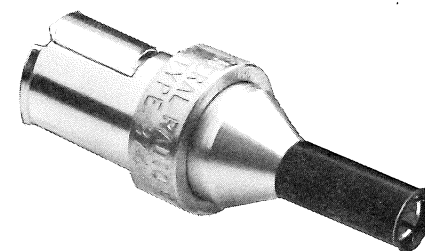

Fig. 2-1. Special GR-to-P6038 Adapter for connecting the P6038 Probe to a 50-ohm line.
3. Place the P6038 Probe tip into a 50-ohm environment, such as shown in Fig. 5-2. Use a 50-ohm cable and a GR-to-P6038 Adapter. The adapter is a special item, available from Tektronix (Part No. 017-076). See Fig. 2-1. The electrical length of the cable need be no longer than 2 nsec and its other end can be left open since its electrical length is much longer than the gate-generator pulse duration, and the probe sees the 50-ohm line only during the gate time.
**GR-To-P6038 Adapter.** The P6038 Probe can be used at the end of an unterminated 50-ohm system (System 5 of Table 2-1) with some precautions. Fig. 2-1 shows the GR-To-P6038 Adapter. (Tektronix Part No. 017-076.)
Use the GR-to-P6038 Adapter shown in Fig. 2-1 with a 10-nsec signal-delay cable from the DELAYED PULSE connector. The system risetime, in either the LOW NOISE or FAST RISETIME position of the Noise-Risetime switch, can then be read directly from the crt display.